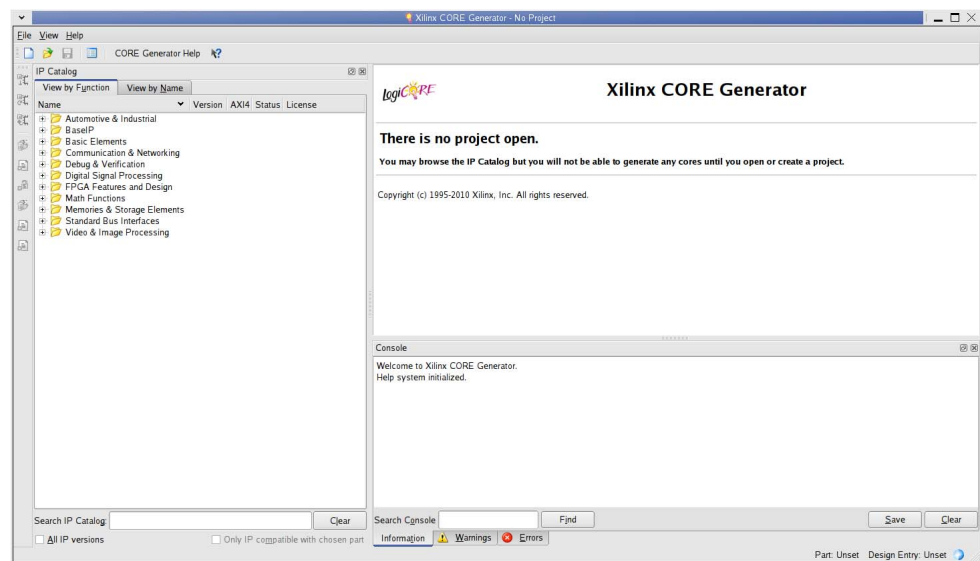

Figure 3-4: Starting a New Project
3. Choose **File > New Project** (Figure 3-4).